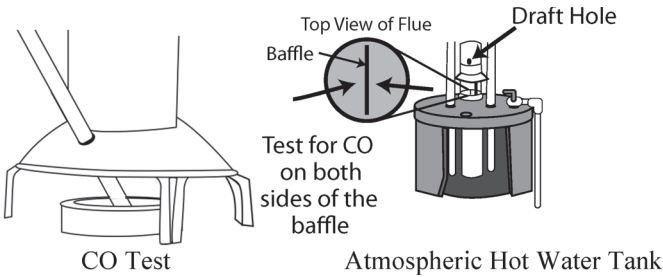

Figure 9-56. Testing CO In a Water Heater and Draft
- **Water Heaters:** Drill a hole 1 to 2 ft above the bell housing / diverter or just beyond the first elbow in the flue and test, (Figure 9-56).